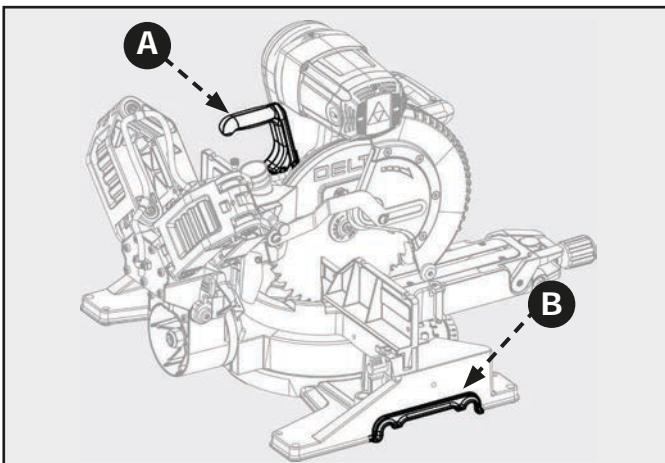

Figure 5
For transportation use the included carry handle (A) as shown in Fig. 5 You may also lift using the cast-in handle cut-outs (B) on both sides of the saw base as shown in Fig. 5.